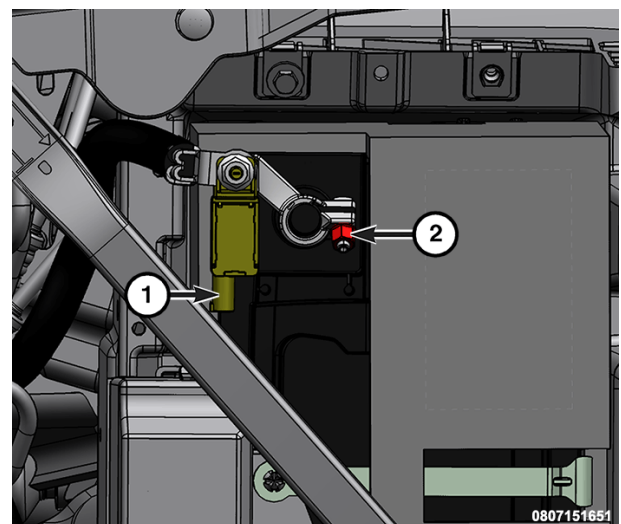

Figure 17 – IBS Connector
2. Disconnect the Intelligent Battery Sensor (IBS) wire harness connector (1) (Figure 17).